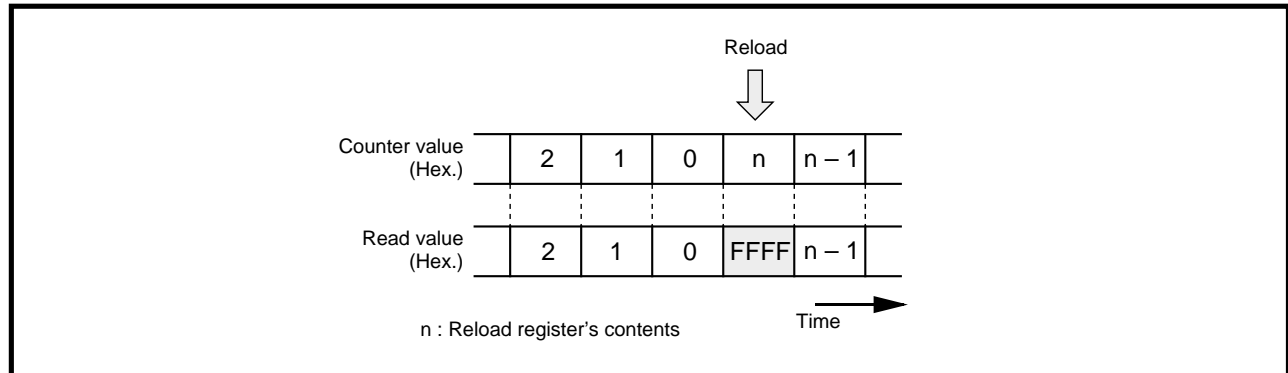

Fig. 7.3.6 Reading timer Ai register
2. By reading the timer Ai register, the counter value can be read out at arbitrary timing. However, if the timer Ai register is read at the reload timing shown in Figure 7.3.6, the value “FFFF₁₆” is read out. If reading is performed in the period from when a value is set into the timer Ai register with the counter stopped until the counter starts counting, the set value is correctly read out.